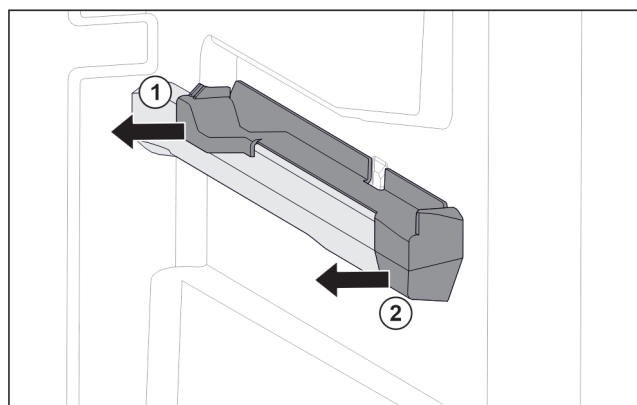

Fig. 31 Attachment on the right moulded rib
- Pull off attachment at the back sideways. Fig. 31 (1)
- Pull off attachment at the front sideways. Fig. 31 (2)